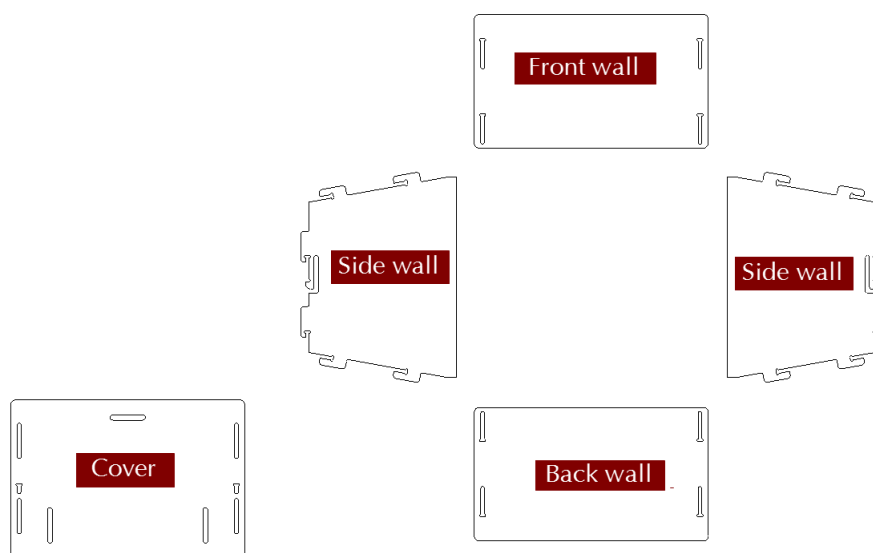
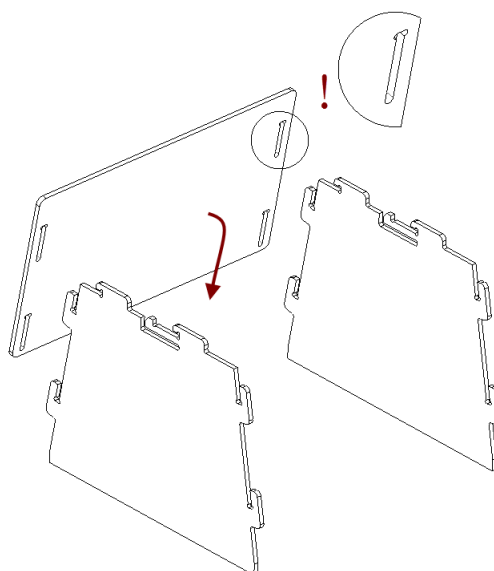
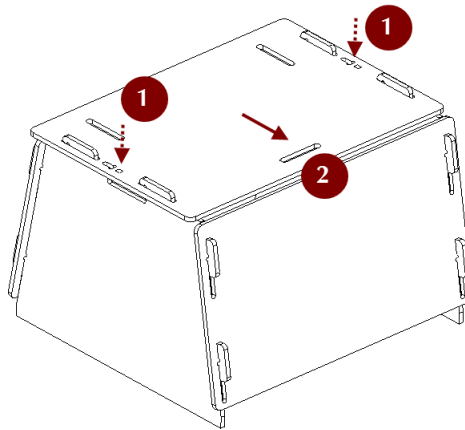

Figure 219: Parts of the scanner stand.
Figure 220: Assembling the front wall.
Figure 223: Latching the cover.
The scanner stand comes unassembled with Artec Spider and consists of five parts (see Figure 219): two side walls, one front and one back wall (these parts are identical, however), and a cover. Before beginning assembly, lay them all out as Figure 219 shows. Then follow these steps:
1. Raise the two side walls to the upright position, as Figure 220 shows. Noting carefully the orientation of the T-shaped slot, install the front wall to the side walls using the two pairs of hooks. Press the front wall and slide it down against the stop. Make sure the three walls are properly aligned with each other.
4. Press your thumbs against the T-shaped holes on the cover and shift it toward the back wall until you hear a click (see Figure 223).
**Note:** To disassemble the stand, release the detents in the cover's T-shaped slots (see Figure 219) using a thin object like a ballpoint pen. Repeat the assembly steps in reverse order (from Figure 223 to Figure 220), moving the parts in the opposite directions.